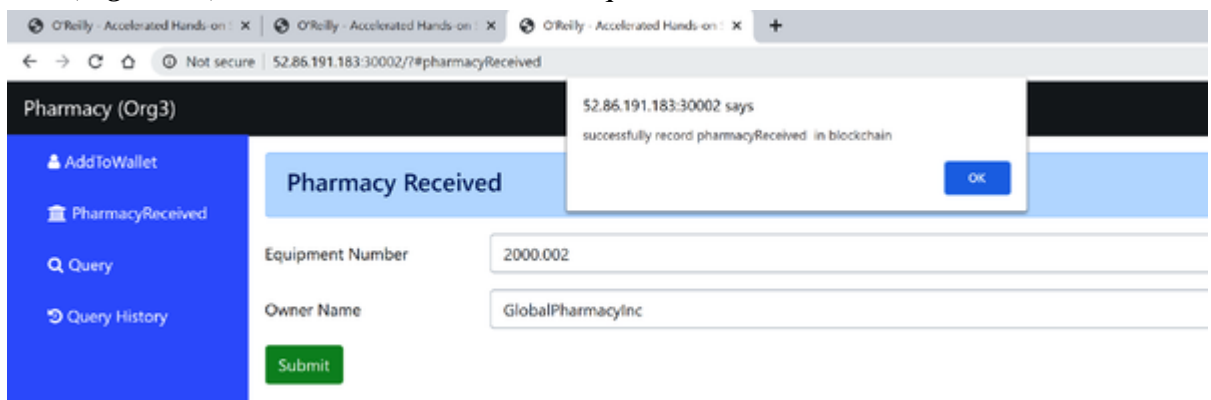

Figure 13: Adding a user (Eve) to the pharmacy
15. Follow the same steps by bringing up the pharmacy node server and add Eve as a pharmacy user (**Figure 13**). Submit a `pharmacyReceived` request: